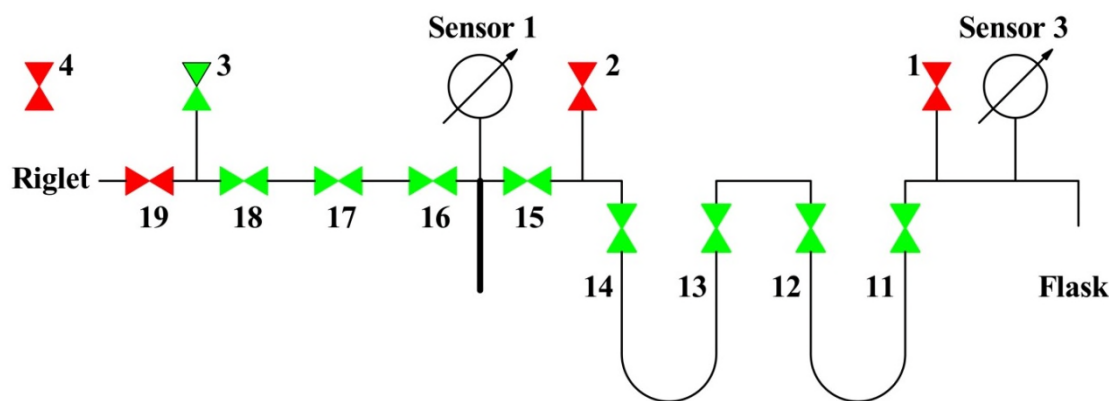

Fig. 3 Opening states of the valves in step 3, green = open, red = closed
- 3) After the 10 min start the pump (switch “prevacuum”) and set the valves as in Fig. 3, i.e. close V1, V2 and V19 and open V11, V13, and V14. Thereby the whole line is pumped with V3